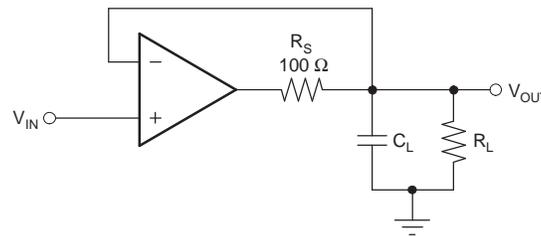
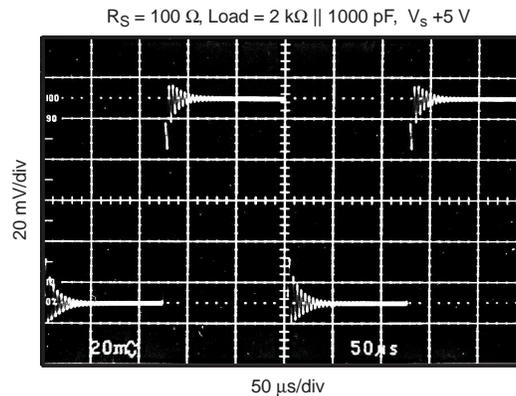
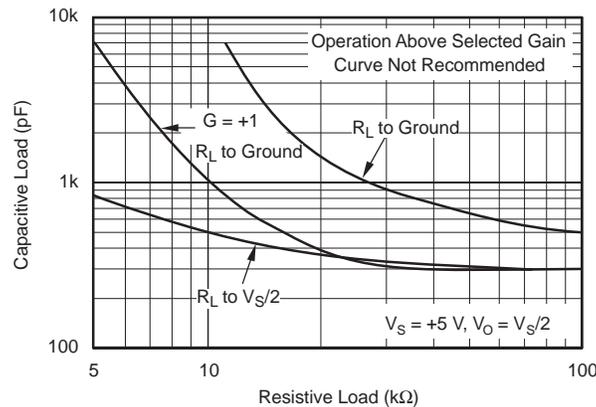

Figure 3. Series Resistor in Unity-Gain Configuration Improves Capacitive Load Drive
Figure 4. Small-Signal Step Response Using Series Resistor to Improve Capacitive Load Drive
Figure 5. Stability — Capacitive Load vs Resistive Load
One method of improving capacitive load drive in the unity-gain configuration is to insert a 50-Ω to 100-Ω resistor inside the feedback loop (see Figure 3). This reduces ringing with large capacitive loads, while maintaining direct current (DC) accuracy. For example, with $R_L = 25\text{ k}\Omega$, OPA336 performs well with capacitive loads in excess of 1000 pF (see Figure 4). Without the OPA336 R_S , capacitive load drive typically is 350 pF for these conditions (see Figure 5).
Figure 5 shows the recommended operating regions for the OPA336. Decreasing the load resistance generally improves capacitive load drive. Figure 5 also shows how stability differs, depending on where the resistive load is connected. With $G = 1$ and $R_L = 10 \text{ k}\Omega$ connected to $V_S/2$, the OPA336 typically can drive 500 pF. Connecting the same load to ground improves capacitive load drive to 1000 pF.